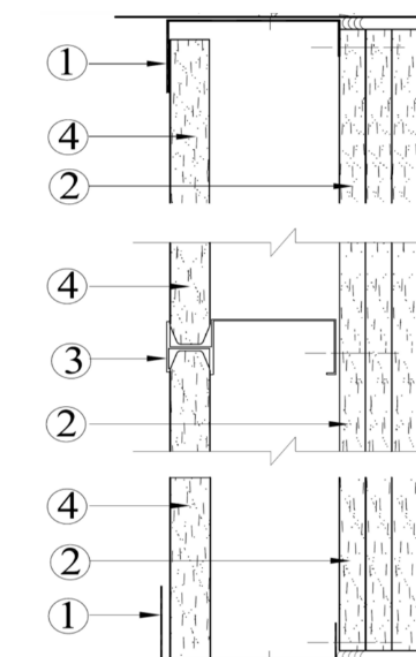

Figure 4 - Three Hour Cavity Shaft Wall (Non-Load Bearing)
Three-Hour Cavity Shaft Wall (Non-Load Bearing). See Figure 4
1. A minimum 2-1/2" deep 24 gauge floor and ceiling J-runners, attached to the structure as described in the Figure 4.
2. Apply three (3) layers of 5/8" thick Sheetrock® Brand Firecode® C Core Gypsum Panels (Type C), vertically or horizontally to the room side of the C-H stud. First layer shall be attached with a 1-in long Type S screw placed 24" o.c. in the field and at the edges when applied vertically, for horizontal applications the screws shall be spaced 16" o.c. The second layer shall be applied with 1-5/8" long Type S screws spaced 24" o.c. when applied vertically or spaced 16" o.c. when the board is applied vertically. The Face layer shall be applied with 2-1/4" long Type S screws that are spaced 16" o.c. when the board is applied vertically, and spaced 12" o.c. when the board is applied horizontally. All joints must be staggered a minimum of 24" o.c. from the adjacent layers, where screws are offset a minimum of 6" from the layer below.
Table 4 - Limiting Heights Vertical Shaft Walls^{1,2} - Applicable to Fig. 4 & 5